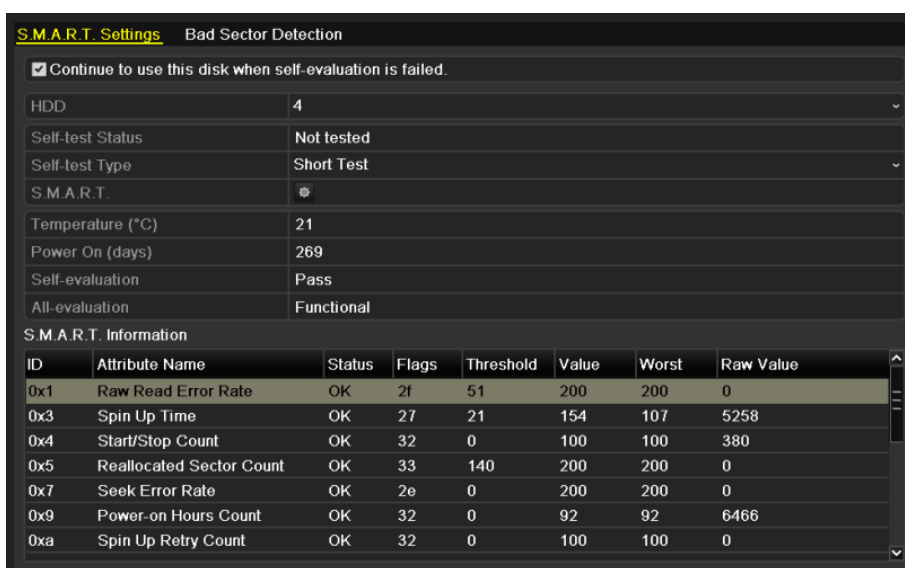

Figure 12. 25 S.M.A.R.T Settings Interface
2. Select the HDD to view its S.M.A.R.T information list, as shown in Figure 12. 25.